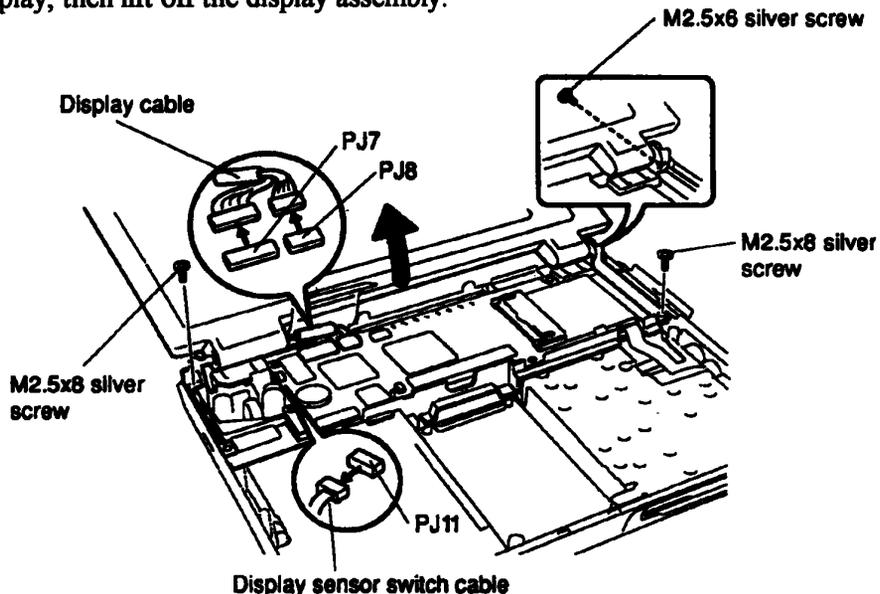

*Figure 4-16 Removing the System Board Cover*
4. Remove the four **M2.5x8 silver screws** and two **M2.5x10 screws** on the **system board cover** (Figure 4-16). Note that the M2.5x8 screw under the hinge secures the ground wire.
6. Set the **system board cover** in place and secure the display **ground wire** with an **M2.5x8 silver screw** (Figure 4-16).
7. Secure the **system board cover** with **three M2.5x8 silver screws** and **two M2.5x10 screws** (Figure 4-16).
8. Place the clear **plastic insulator** over the display cables and press it so that it adheres to the **system board cover** (Figure 4-16).